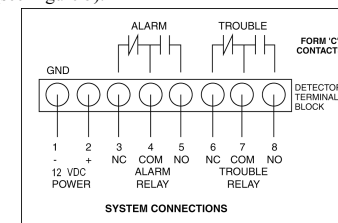

Figure 5
- 9.5.3 Pull wires through hole at center of alarm base and connect to the internal terminal block as shown on the following wiring diagrams (see Figure 5).